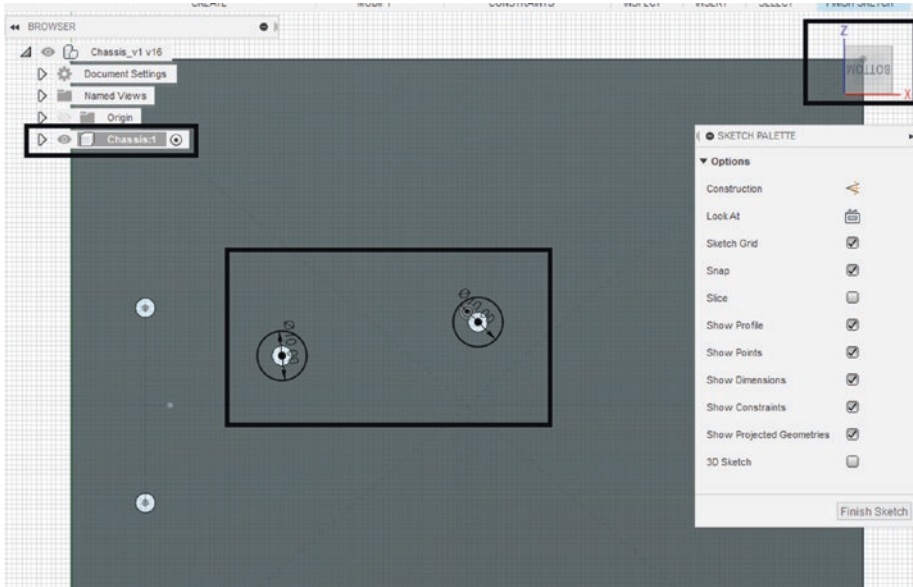

Figure 6-55. Move to the bottom and create some circles that will hide the screws from view
9. Flip to the bottom of the chassis and start a new sketch. Draw two 10mm circles around the two Arduino holes you already made. See Figure 6-55.